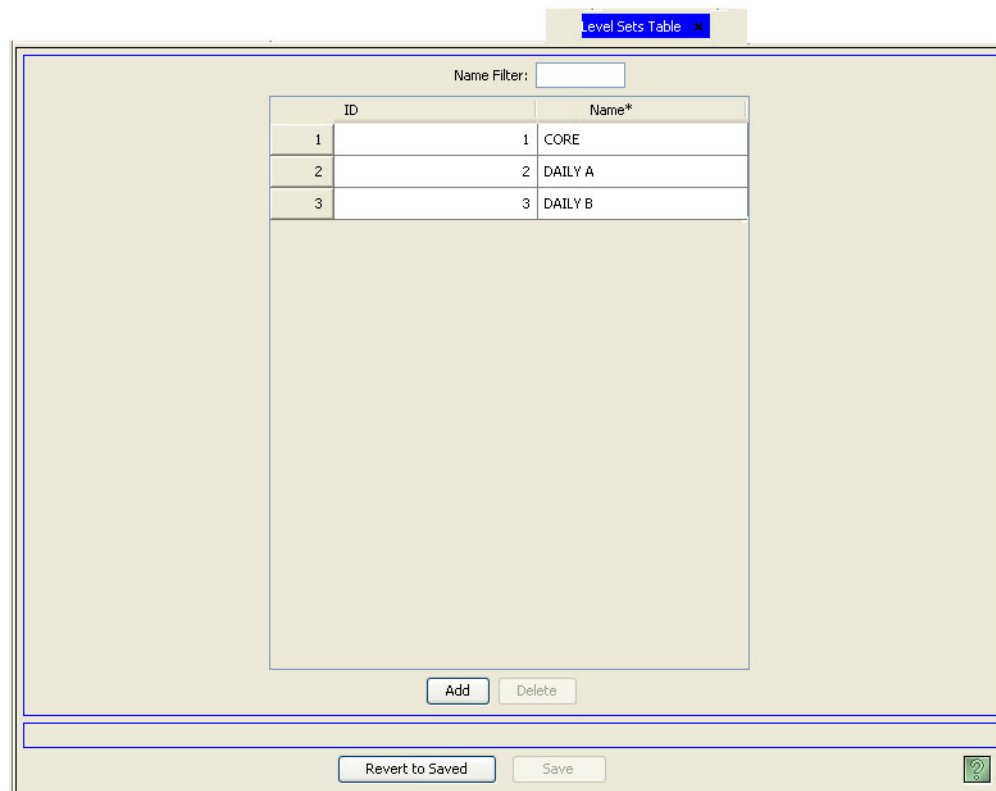

Figure 8-7. Level Sets Table
- 2 From the Navigation area, select the ‘Views’ pane and then ‘Level Sets’. The ‘Level Sets’ table appears, as shown in Figure 8-7.